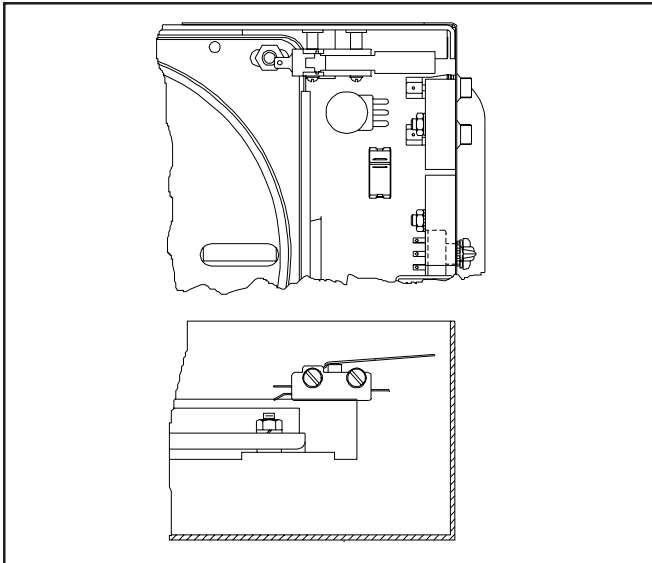

Fig. 10 - Safety Switch
2. Remove the two retaining screws and spacers (Fig.10).